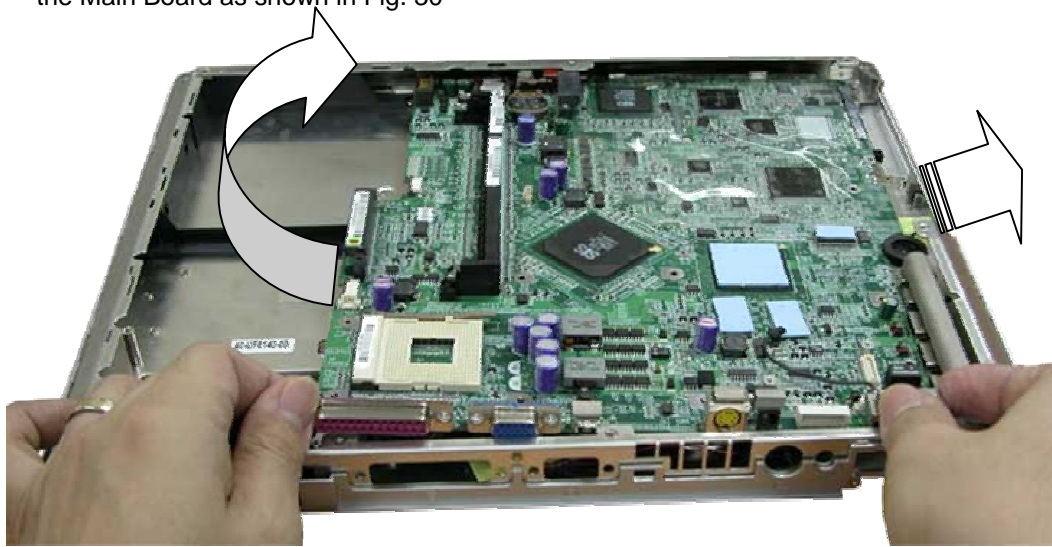

Fig. 30 Lifting up Main Board
5. Pull the plastics part near to audio port outward to release Main Board and carefully lift up the Main Board as shown in Fig. 30